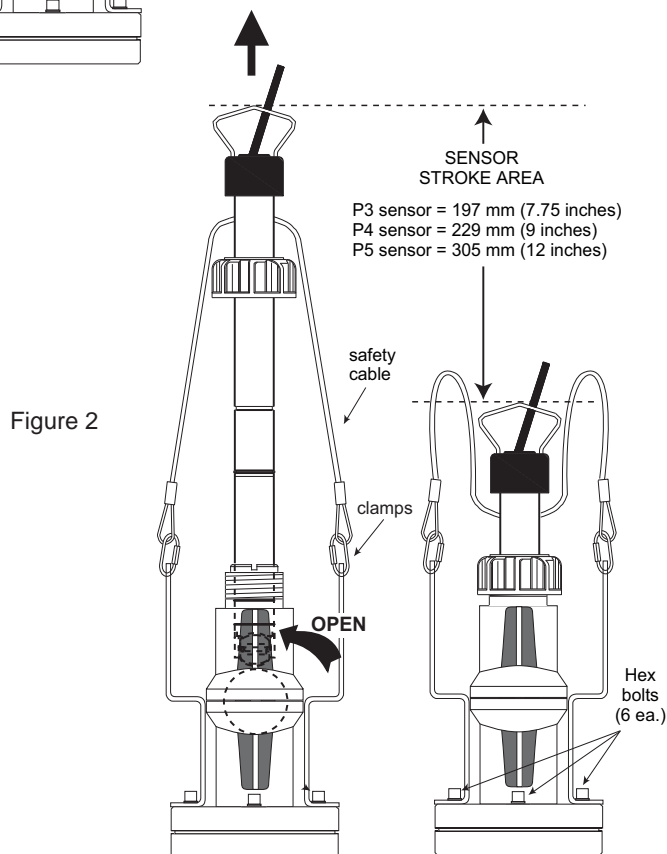

Figure 2
4. Pull the flow sensor upward to remove slack in the safety cables (Figure 2).
5. Open the ball valve (Figure 2).
WARNING: Check the six (6) Hex bolts (Figure 2) prior to unscrewing the sensor cap. **If bolts are loose, tighten securely before proceeding.**
2. Carefully pull the flow sensor upward with a twisting motion until the safety lanyards are fully extended (Figure 2).